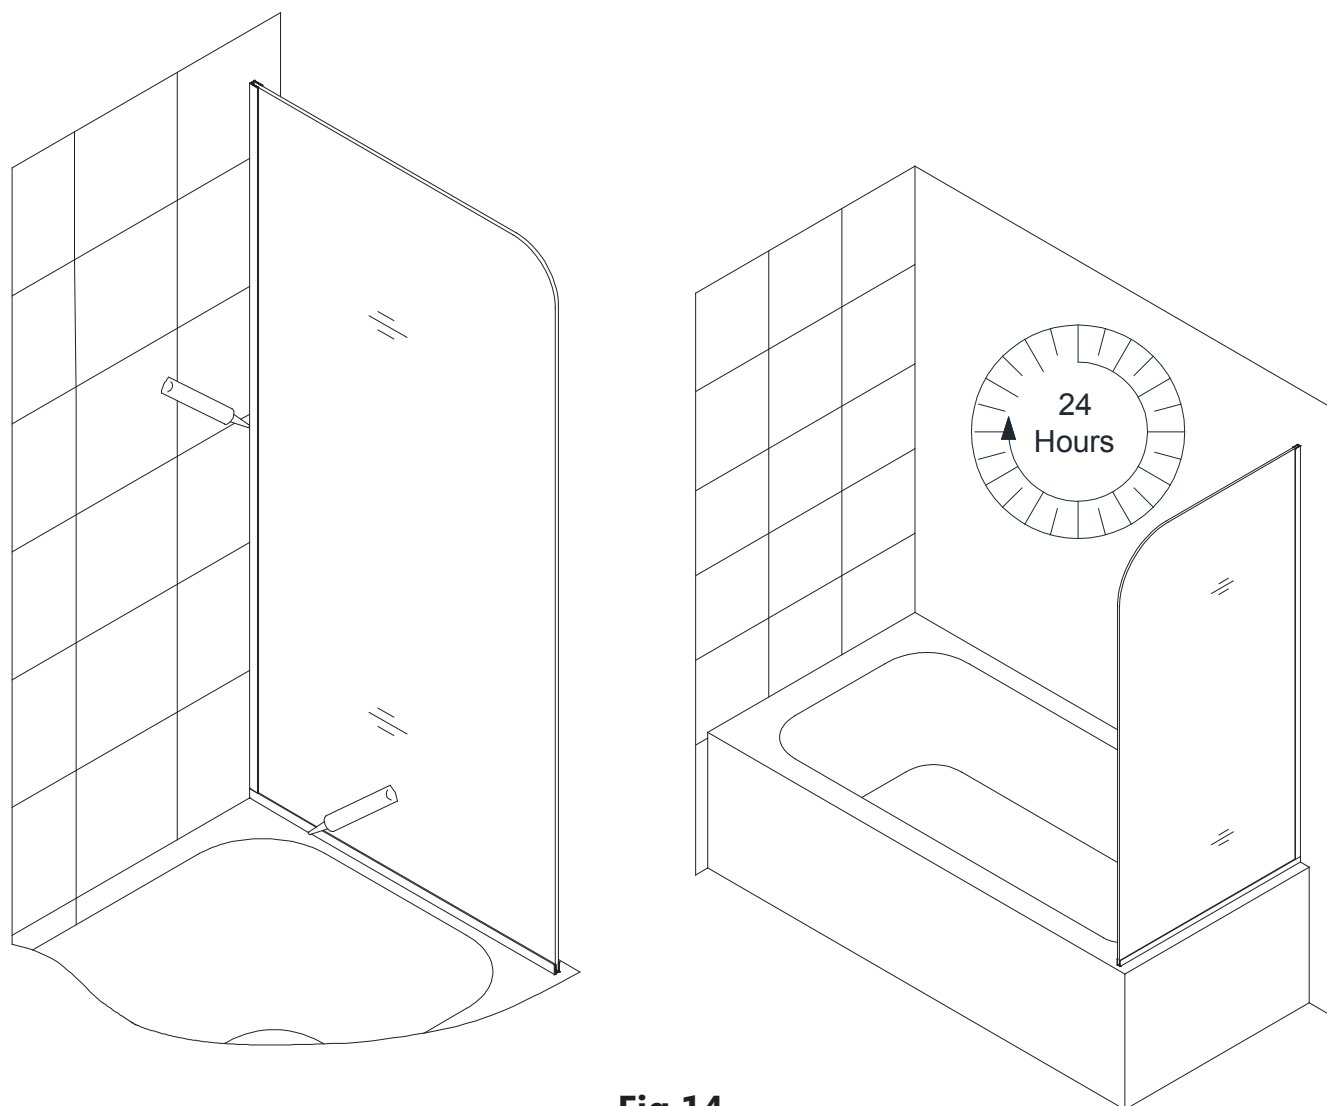

Fig 14
12. Apply a good quality mildew-resistant waterproof silicone along the connection of both U-Channels to the wall and tub surface from the inside of the shower. **(Fig 14)**